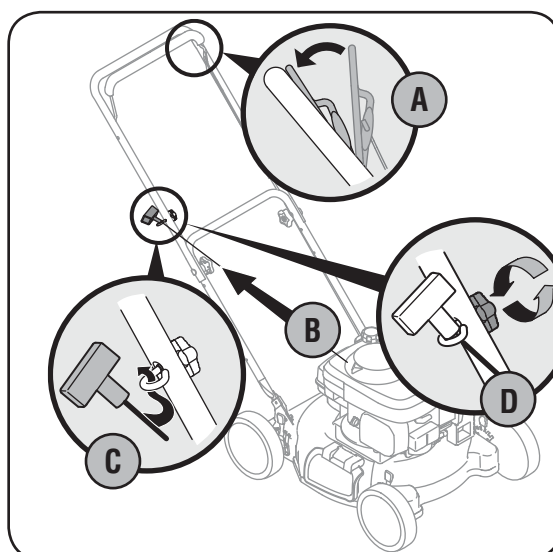

Figure 4-3
3. Rope guide Setup as follows, see Figure 4-3.